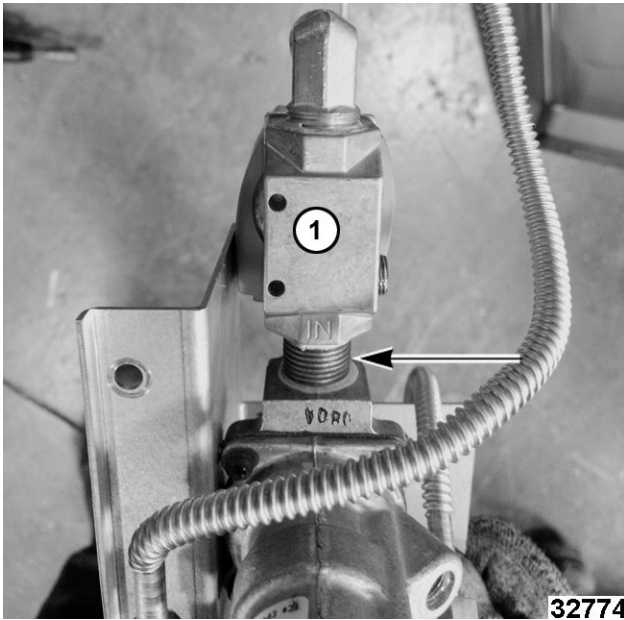

Fig. 46
3. Remove solenoid (1, Fig. 46) from pipe nipple.